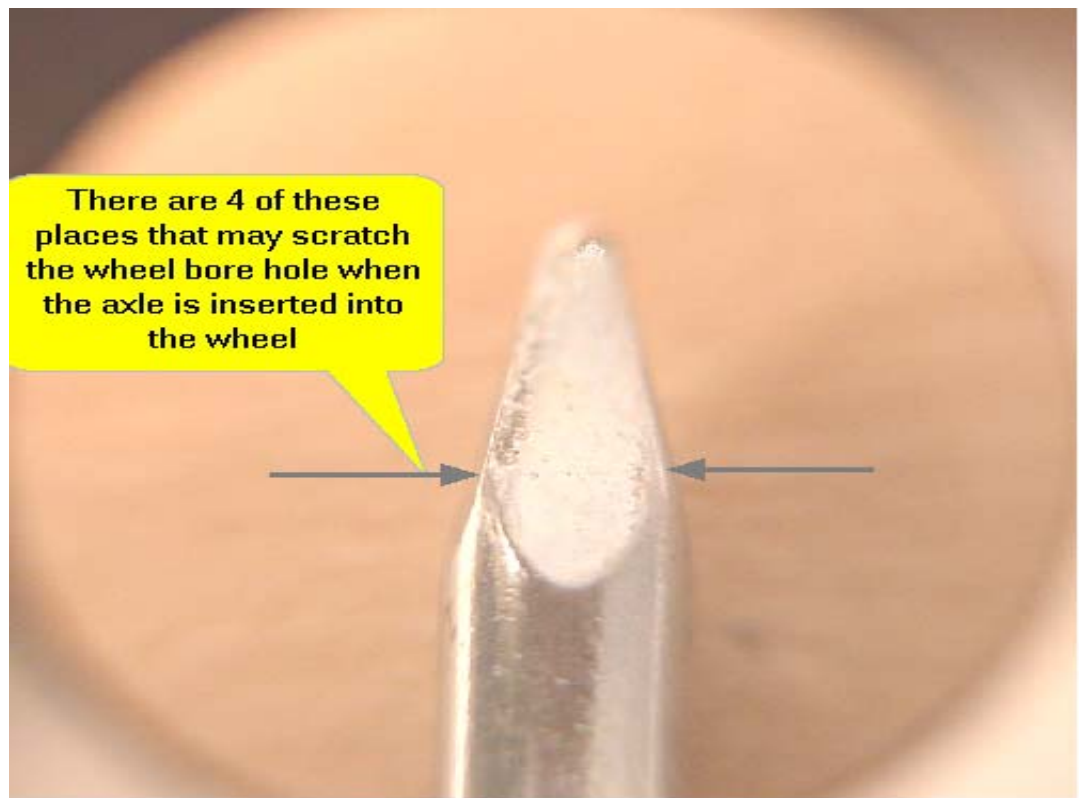

Figure 3 - Magnified view of an axle from a BSA kit showing the sharp raised edges that may scratch the inner wheel bore surface.
- In **Fig. 3** you can see 4 places where the chisel point stamping during manufacture raised opposite sharp edges which are farther apart (about 0.093") than the shaft diameter itself (which is about 0.089"), and can get close to the bore diameter (about 0.094 to 0.095"). Thus the act of inserting an axle through the bore could damage the bore surface.